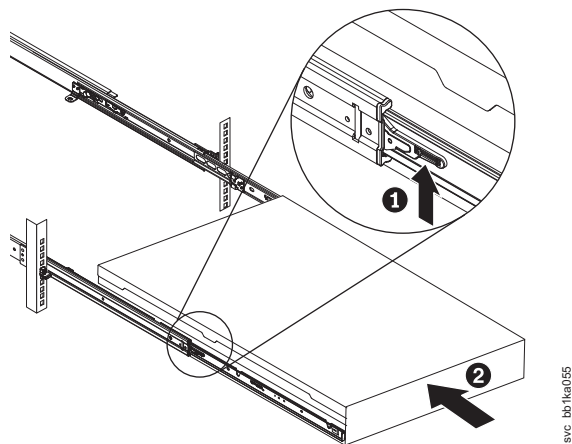

Figure 200. Raising the locking levers of the SAN Volume Controller 2145-DH8 slide rails of the rack
13. Lift the locking levers (**1** in Figure 200 on page 242) on the slide rails and push the server **2** all the way into the rack until it clicks into place.